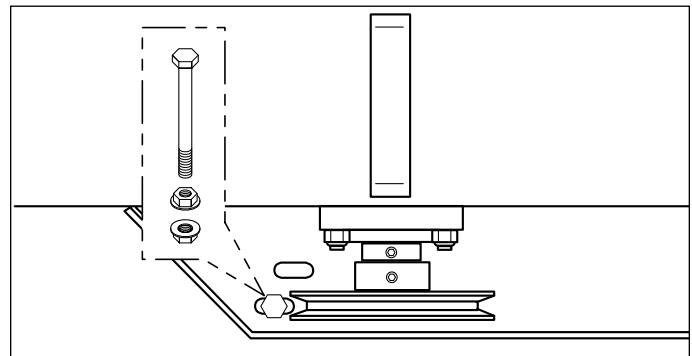

Figure 12. Install Blower Pulley & Guide Bolt
10. Install one 3/8-16 flange nut on the 3/8-16 x 6" bolt and tighten against the end of the threads (see Figure 12). Install drive belt on the drive pulley and install the 3/8-16 x 6" bolt. Leave enough space between the belt and bolt so it will not interfere. Secure the bolt with a 3/8" serrated flange nut.